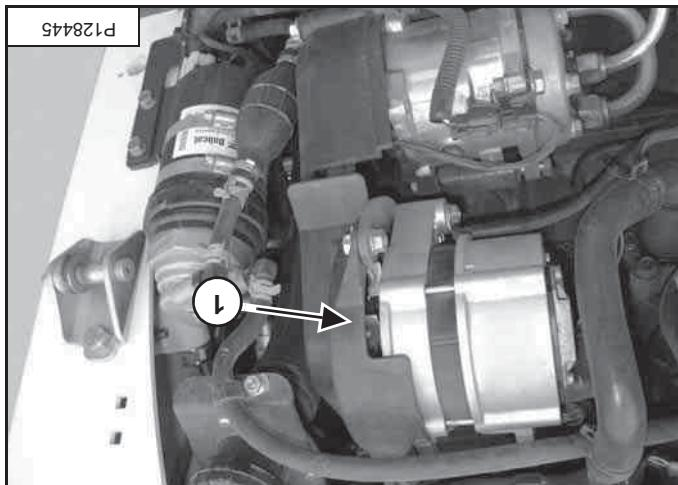

Figure 51
The engine drive belt shield (item 1) [Figure 51] can also collect inside the drive belt area. Remove all flammable debris from the engine drive belt shield (item 1) [Figure 51].